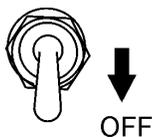

Figure 30. Operation Switch (OFF)
5. To shut-down the engine, place the generator's operation switch (Figure 30) in the **OFF** position).
1. Place operation switch (Figure 30) in the **OFF** position.